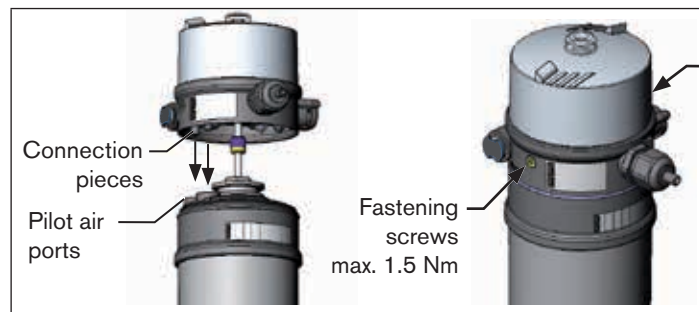

Fig. 9: Installation of the Pneumatic Control Unit, 21xx series
- Align the Pneumatic Control Unit until the connection pieces of the Pneumatic Control Unit can be inserted into the pilot air ports of the actuator (see also Fig. 9).